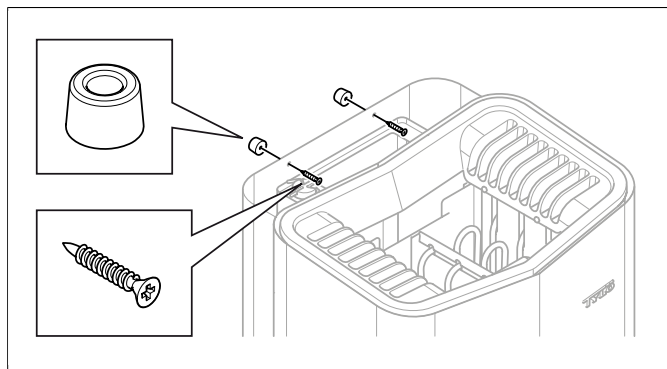

**Figure 12:** Fit spacers
10. Fit the spacers between heater and wall (to prevent the heater from being lifted off) (see **Figure 12**, Page 6).